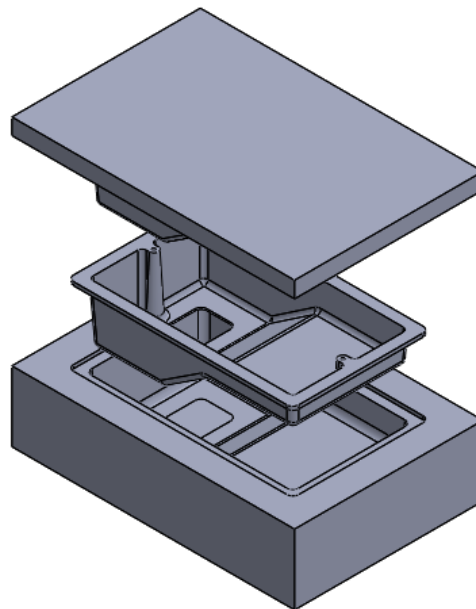

Figure 21-48 Exploded view of the Mold base assembly
- Explode the assembly, refer to Figure 21-48.
2. Using the **Exploded View** tool in **Assembly CommandManager**, explode the Mold Base assembly, refer to Figure 21-48.